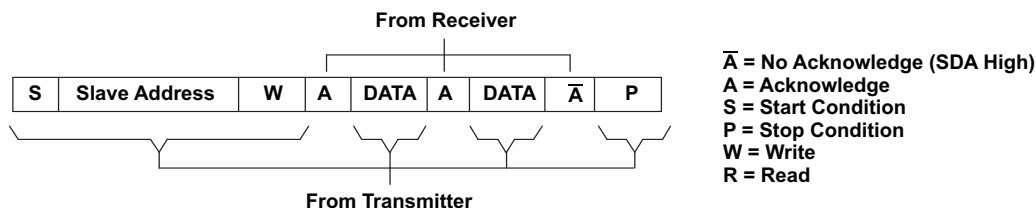
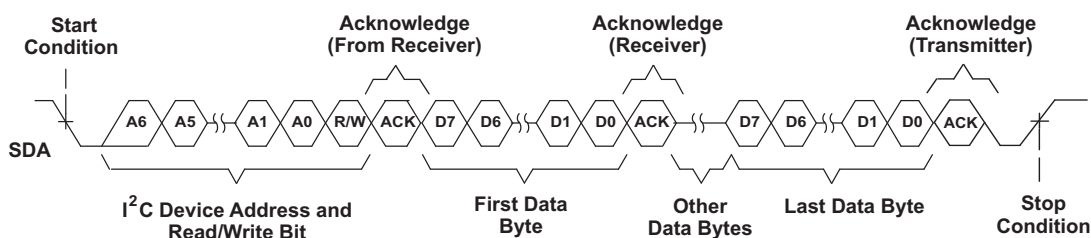
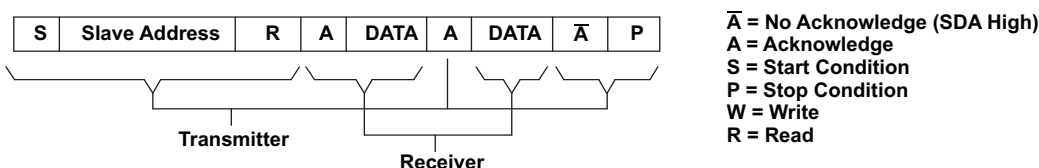
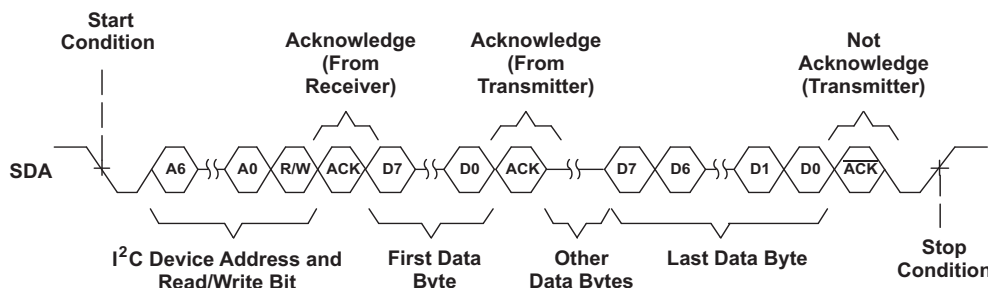

Figure 9. I²C Write Cycle
Figure 10. Multiple Byte Write Transfer
Figure 11. I²C Read Cycle
Figure 12. Multiple Byte Read Transfer
During a write cycle, the transmitting device must not drive the SDA signal line during the acknowledge cycle, so that the receiving device may drive the SDA signal low. After each byte transfer following the address byte, the receiving device pulls the SDA line low for one SCL clock cycle. A stop condition is initiated by the transmitting device after the last byte is transferred. Figure 9 and Figure 10 show an example of a write cycle. Note that the THS7347 does not allow multiple write transfers to occur. See the example, **Writing to the THS7347**, in WRITE AND READ EXAMPLES for more information.
During a read cycle, the slave receiver acknowledges the initial address byte if it decodes the address as its address. Following this initial acknowledge by the slave, the master device becomes a receiver and acknowledges data bytes sent by the slave. When the master has received all of the requested data bytes from the slave, the not acknowledge (\bar{A}) condition is initiated by the master by keeping the SDA signal high just before it asserts the stop (P) condition. This sequence terminates a read cycle, as shown in Figure 11 and Figure 12. Note that the THS7347 does not allow multiple read transfers to occur. See the example, **Reading from the THS7347**, in WRITE AND READ EXAMPLES for more information.
The THS7347 operates using only a single-byte transfer protocol similar to that illustrated in Figure 9 and Figure 11. The internal subaddress registers and the functionality of each are given in Table 2. When writing to the device, it is required to send one byte of data to the corresponding internal subaddress. If control of all three channels is desired, then the master must cycle through all the subaddresses (channels) one at a time; see the example, **Writing to the THS7347** (in WRITE AND READ EXAMPLES) for the proper procedure of writing to the THS7347.